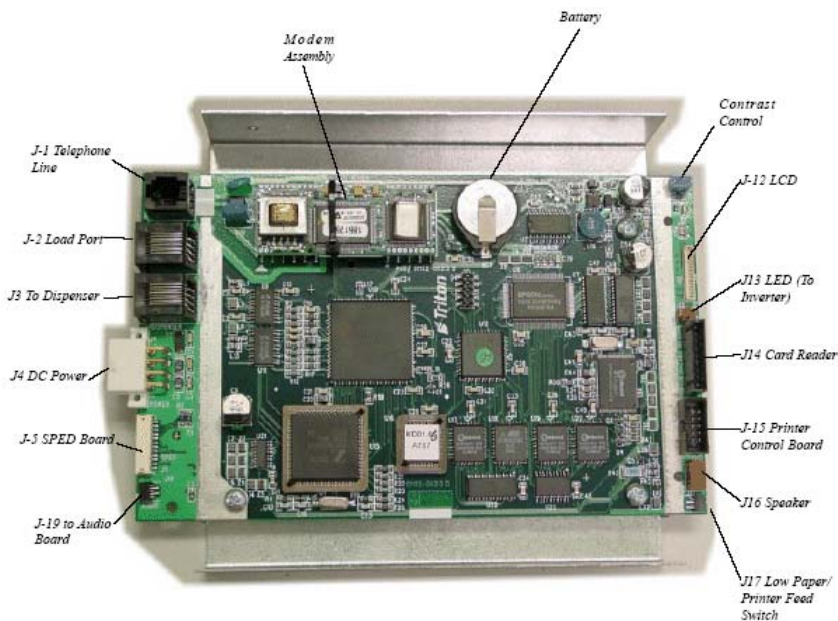

Figure 12. Main board connections.
12. Install the main board assembly on the control panel. Reconnect all the cables previously removed. Figure 12 (below) shows cable connect points. Connect the power/data cable from the EPP to the main board.